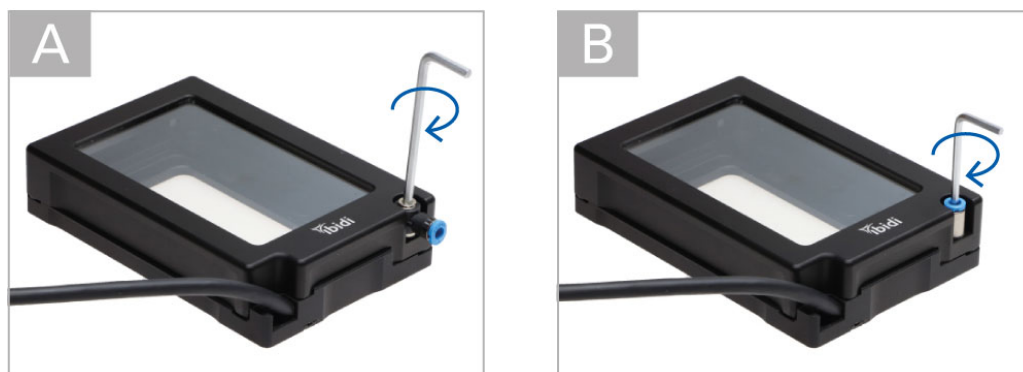

Figure 10: Exchange the push-in fitting for gas supply from sideways (A) to upwards (B).
The Heated Lid of the Incubation Chamber Slide/Dish has a push-in fitting for optional connection to the ibidi Gas Incubation System. Either a push-in fitting directed sideways (Figure 10 A) or a push-in fitting directed upwards (Figure 10 B) is installed to the Heated Lid. In order to exchange the push-in fitting from sideways to upwards, or vice versa, use the hex keys as shown in Figure 10. Use the hex key 3.0 to remove or insert the push-in fitting, sideways. Use the hex key 2.5 to remove or insert the push-in fitting, upwards.